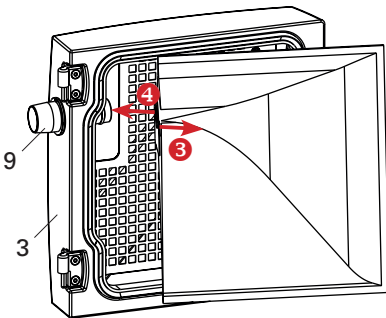

Fig. 15
- 5 pull the filter cage out in a forward direction (fig. 15).